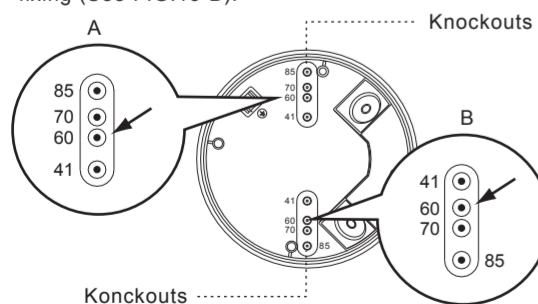

FIG.13-A
4.4.3.1 There are 4 pairs of knockouts with various distances from 41mm to 85mm on the junction box can be selected for different mounting applications (See FIG.13-A). Select two same figures on both ends for the corresponding distance for fixing (See FIG.13-B).